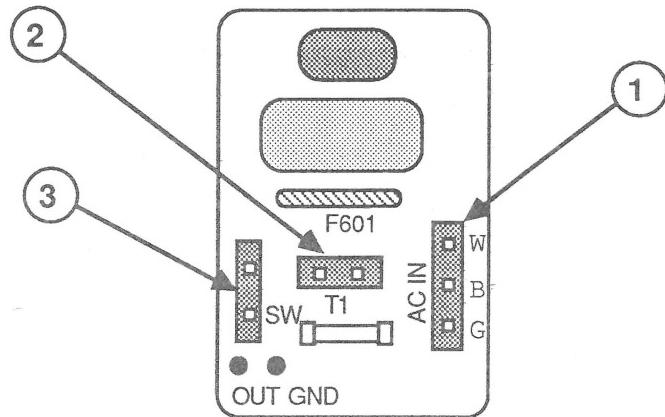

FIGURE 4
10. Disconnect the AC IN connector (Figure 4, #1) from the line filter board.
- If there are **three** AC IN connector pins at the markings **W** (white), **B** (black), and **G** (green) on the filter board, the power cord ground wire is connected to the line filter board circuitry, and the monitor is properly grounded. Reconnect the AC IN connector (Figure 4, #1) to the line filter board, and proceed to step 19.
- T1 (Figure 4, #2)
- SW (Figure 4, #3)